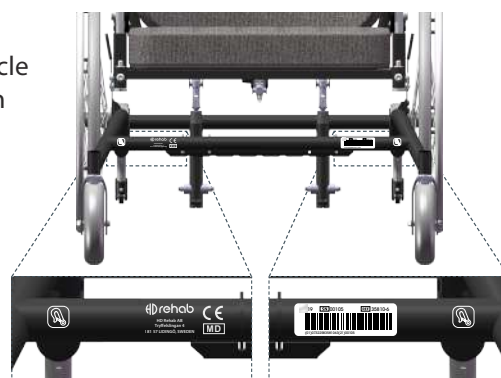

Figure 1. Labels for wheelchair identification
Manufacturer, production year, serial number (SN), and article number (REF), in text and in bar code format, are printed on the front cross tube of the wheel frame, see Figure 1.